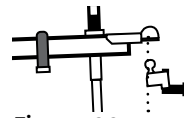

Figure 28
1. With the Equal-i-zer hitch head installed, position the hitch ball directly under the trailer coupler. (Figure 28)